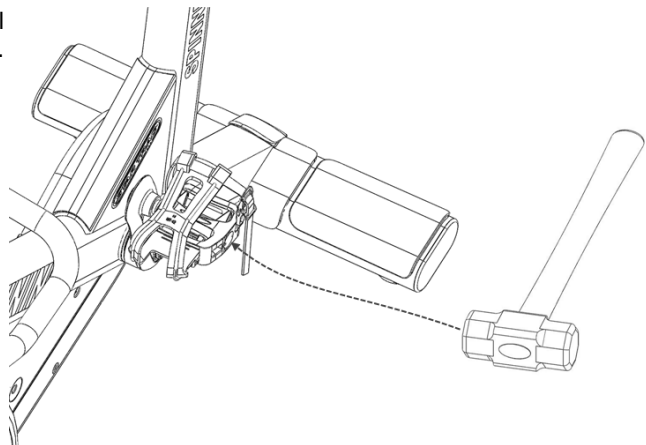

Fig. 24
24. Using a rubber mallet (Fig. 24); tap the center of each pedal with medium force to lock the pedals in place.